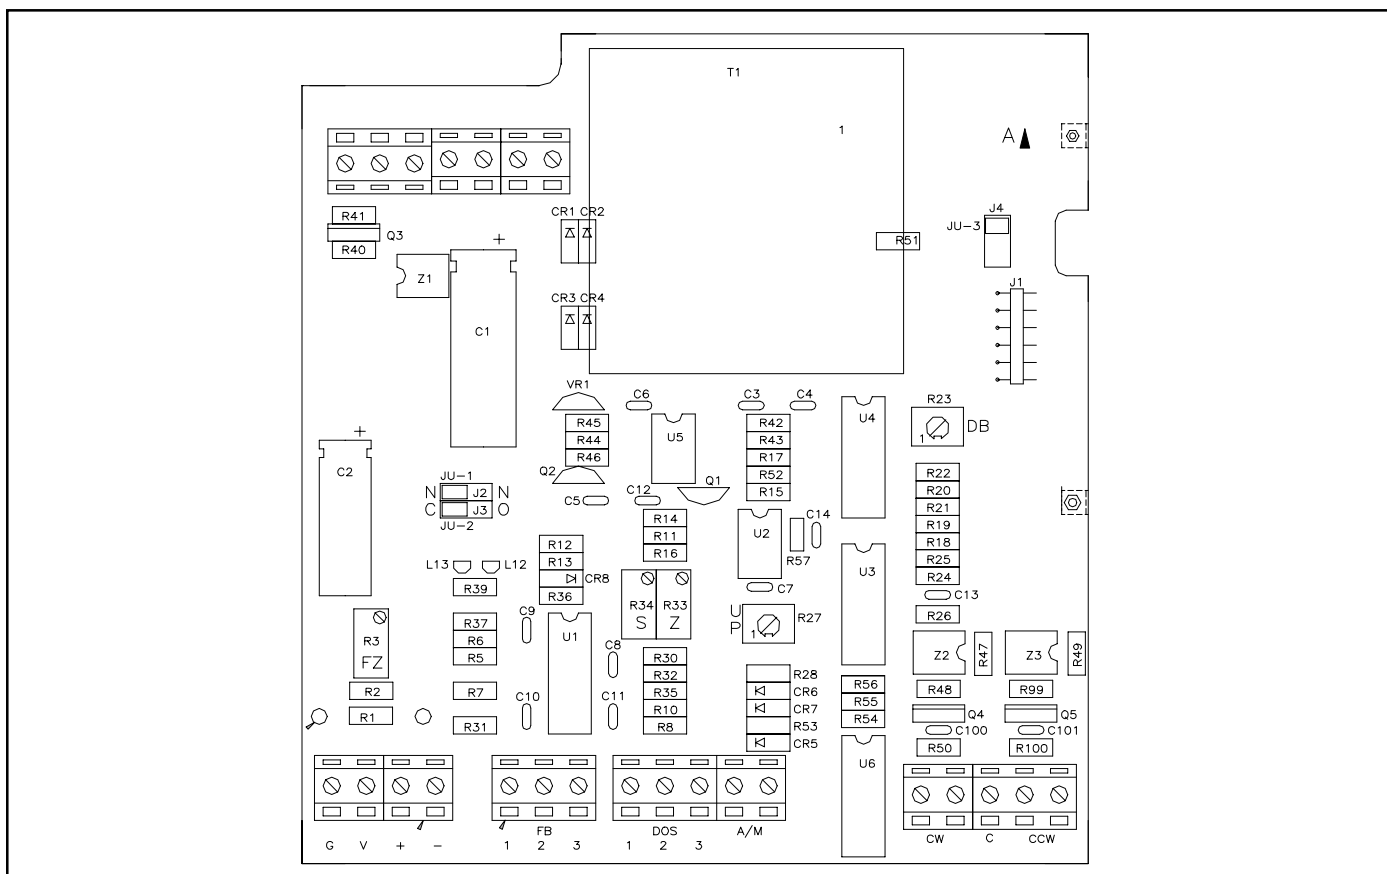

Figure 5 - PC board Component Locations
3.4.4 Electrical Calibration - Refer to Figure 5.
3.4.5 Dosage and Deadband (DB) Adjustment (Refer to Figure 5)